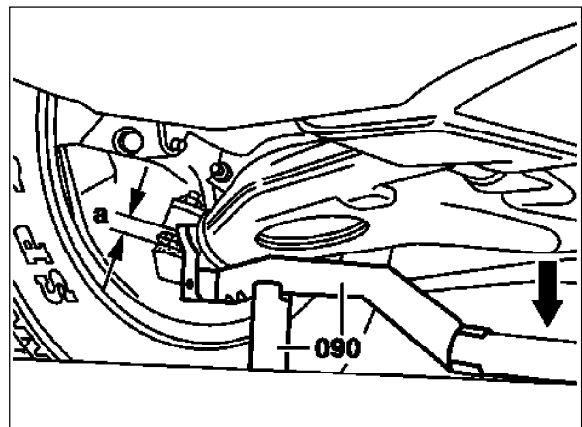
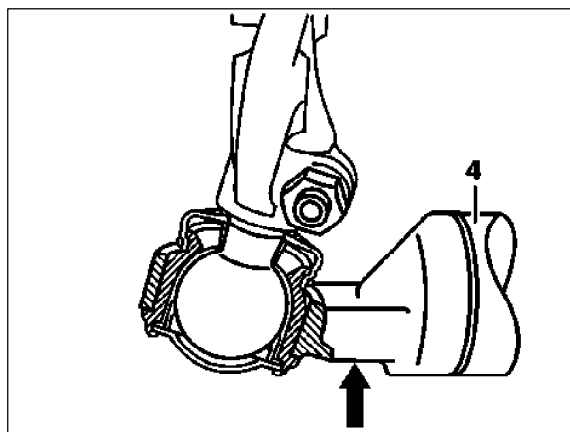

Figure 2
Figure 3
1. Position Special Tool, part no. 129 589 06 21 00 (090, Figure 2), under control arm as close as possible to ball joint (arrow, Figure 3).
2. By lifting/lowering control arm (4, Figure 3) with Special Tool (loading/unloading wheel), any play can be detected at the ball joint by a second person touching the ball joint.